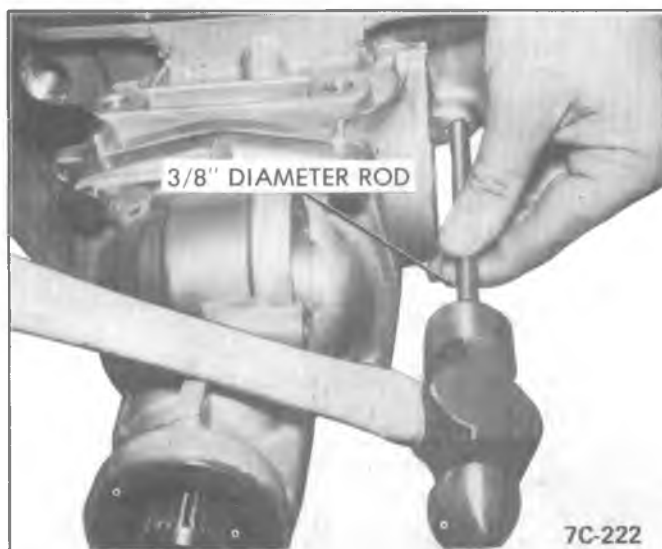

Figure 350C-141 Install Retaining Plug
4. Install park lock bracket, torque bolts to 29 ft.lbs. (39 N·m). See Figure 350C-142.